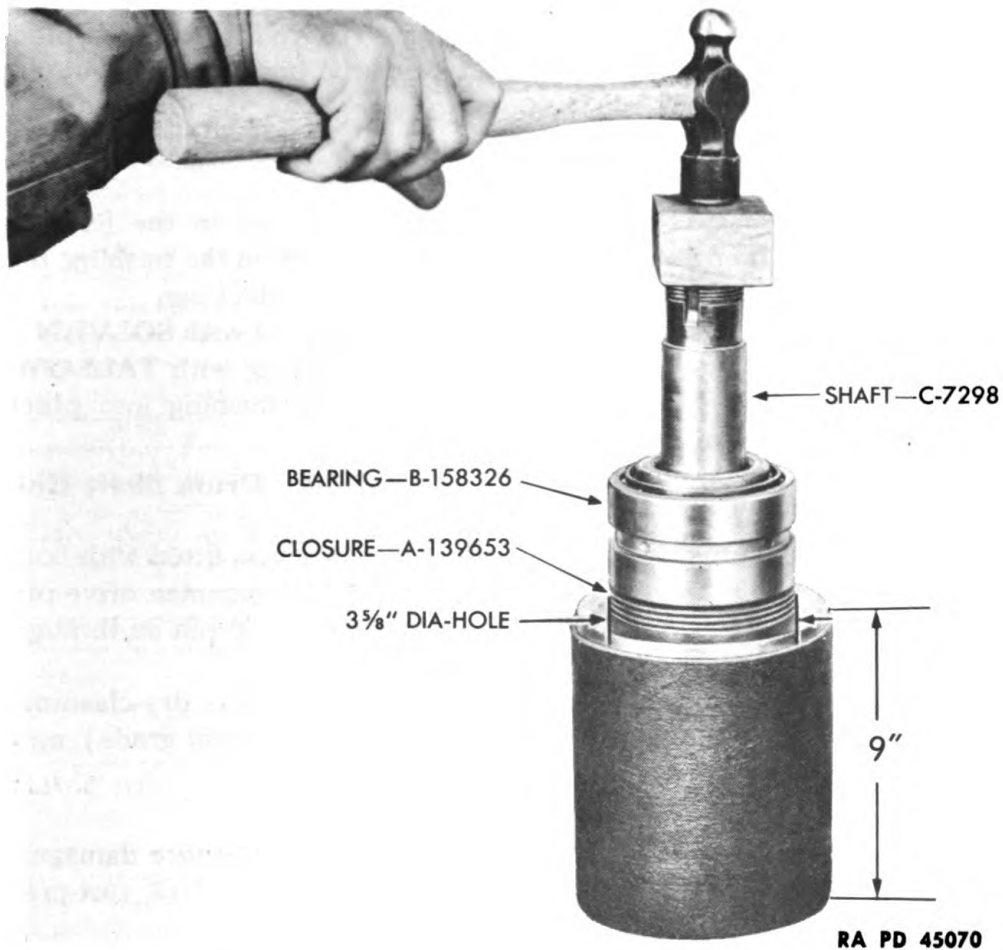

Figure 182—Removing Bearing and Closure from Elevating Brake Drum Shaft
c. **Disassemble Elevating Brake Drum Shaft Closure and Bearing.** Place shaft C7298 in a round steel block with a $3\frac{5}{8}$ -inch diameter hole in it. Drive shaft C7298 out of bearing B158326 and closure A139653 (fig. 182). This can also be done on an arbor press.
(2) If an arbor press is not available, tap the shaft into closure and bearing, using a round steel block 9 inches high with a $3\frac{5}{8}$ -inch diameter hole through it, a hammer, and wood block (fig. 182).